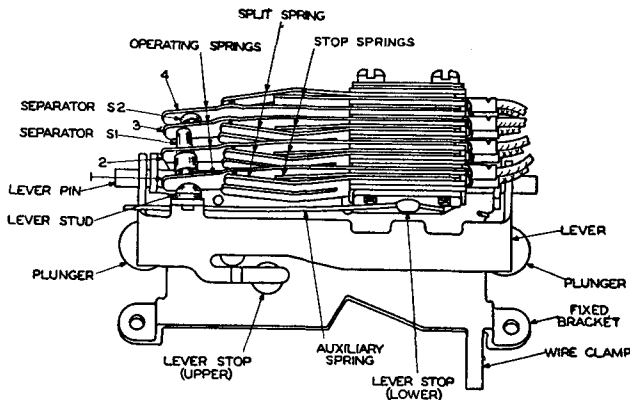

Fig. 4—Switch Assembly for the P-339939 Mounting Assembly
(d) For the P-339939 mounting assembly, the four operating spring assembly is equipped with an auxiliary spring. (See Fig. 4.) No adjustment shall be made on this spring.
- Depress and release the plunger and observe that all contacts which are intended to make shall have positive pressure. If contacts are worn or burned, replace the set. In order to increase the contact pressure or the separation between contacts, the stop spring (shown in Fig. 4) should be adjusted.